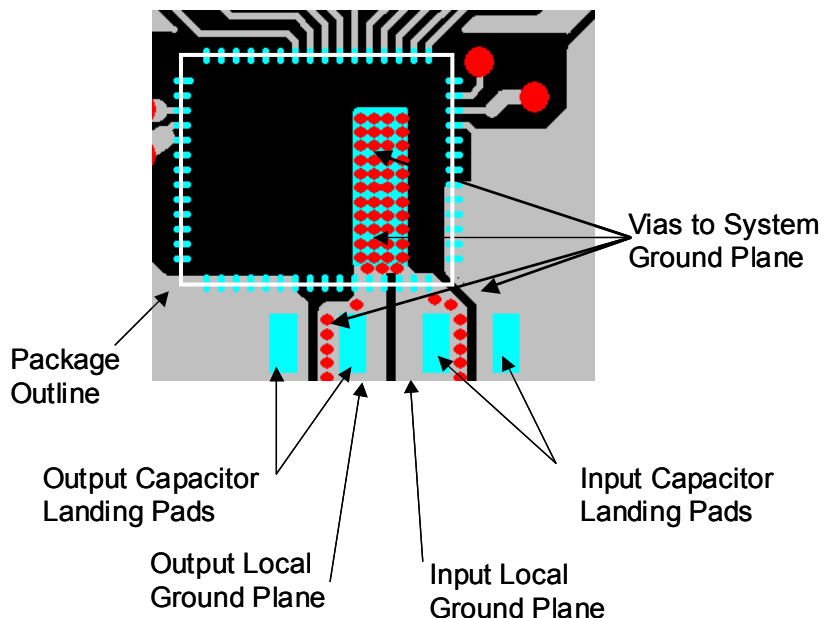

Figure 8. Use of vias connecting local and system ground.
**Recommendation 3:** Multiple small (0.25mm) vias should be used to connect ground terminal of the Input capacitor and the output capacitor to the system ground plane as shown in figure 8.